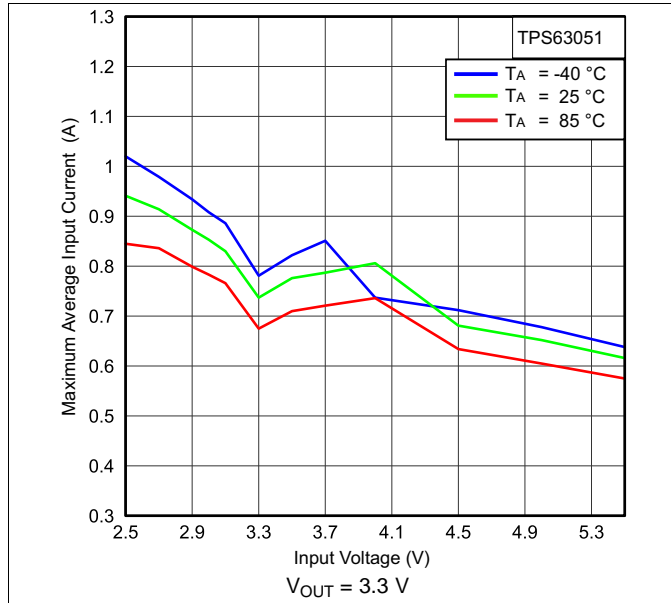
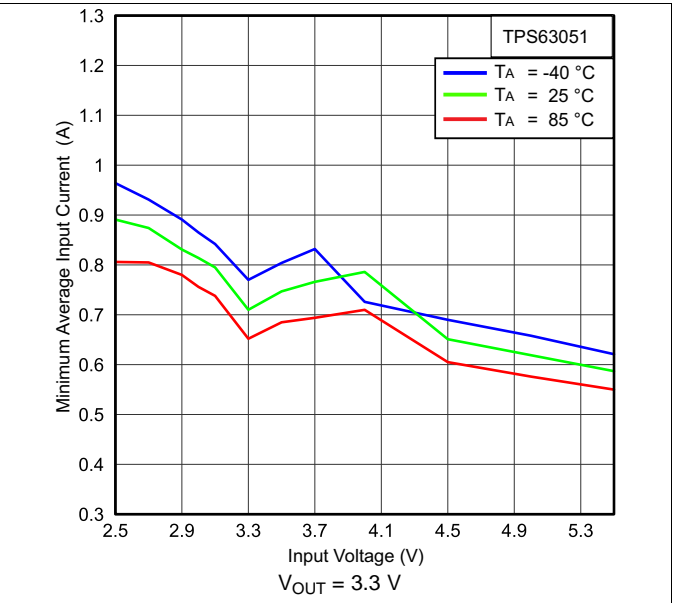

Figure 1. Maximum Average Input Current vs Input Voltage
Figure 2. Minimum Average Input Current vs Input Voltage
(1) For minimum and maximum output current in a specific working point see Figure 1 and Figure 2; and Equation 1 through Equation 4.
(2) Conditions:  $T_J = -40^\circ\text{C}$  to  $85^\circ\text{C}$
(3) Conditions:  $f = 2.5\text{ MHz}$ ,  $L = 1.5\ \mu\text{H}$ ,  $C_{OUT} = 10\ \mu\text{F}$
The TPS6305x devices have an internal user programmable current limit that monitors the input current during start-up. This prevents high inrush current protecting the device and the application. During start-up the input current does not exceed the current limit that is set by  $I_{LIM0}$  pin and  $I_{LIM1}$  pin. Depending on the logic level applied at these two pins, switching between four different current limit-levels is possible. The variation of those values over input voltage and temperature is shown in Figure 1 through Figure 2. Adjusting the soft-start time further using the soft-start capacitor is possible.
Given the curves provided in Figure 1 through Figure 2, calculating the output current in the different condition in boost mode is possible using Equation 1 and Equation 2 and in buck mode using Equation 3 and Equation 4.
- $I_{IN}$  = Minimum average input current (Figure 2 to Figure 2)